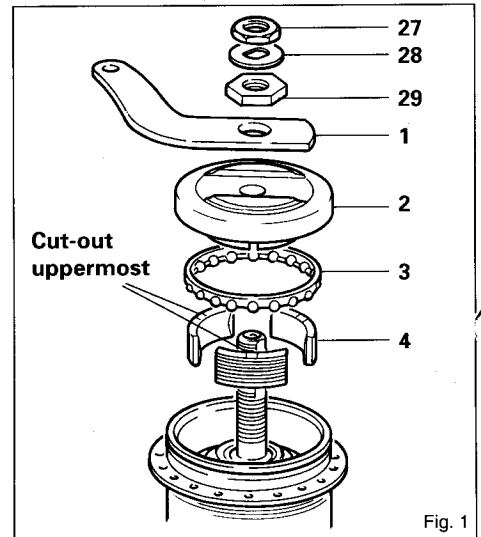

Fig. 1
3. (See Fig.1) Clamp right hand end of axle in a vice and unscrew the left hand cone locknut, spacing washer, and brake arm nut. Remove the brake arm, left hand cone and dust cap assembly, and brake shoe segments. Remove the brake actuator assembly by turning hub-shell clockwise. Remove hub from vice.
- Clamp right hand end of axle in vice and fit brake actuator assembly to left hand end of axle, turning clockwise to ensure the internal screw threads engage with planet cage. Fit the 3 brake shoe segments such that the cut-outs are uppermost (see Fig. 1), the tag of the
- (See Fig. 1). Fit ball cage assembly, with balls facing down. Fit left hand cone, lining up the slot on the underside of the cone (See fig. 5) with the brake actuator drag spring tag. Slide over the axle to engage tag, checking the cone is correctly seated by rotating slightly ensuring that it engages with the brake shoe segments (see Fig. 5). Fit brake arm, brake arm nut, washer and locknut. Adjust hub as described in Part 2. Remove hub from vice.